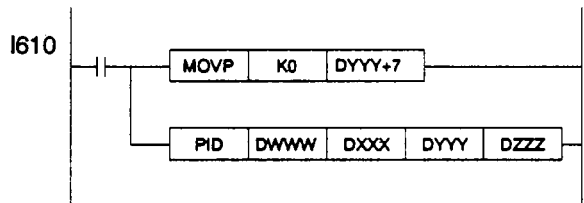

Figure 4: Ensuring correct PID operation. Note that an interrupt routine has only been chosen as one possible example.
- Although the PID instruction can be used in interrupts, subroutines, step ladder or with jumps, care must be taken. In these situations, it is recommended to use the PID instruction in the way shown in Figure 4. The choice of Data Registers and contacts is down to the user. Note however, that the Move instruction must always move K0 into DYYY+7. So if DYYY=D300, then DYYY+7=D307.